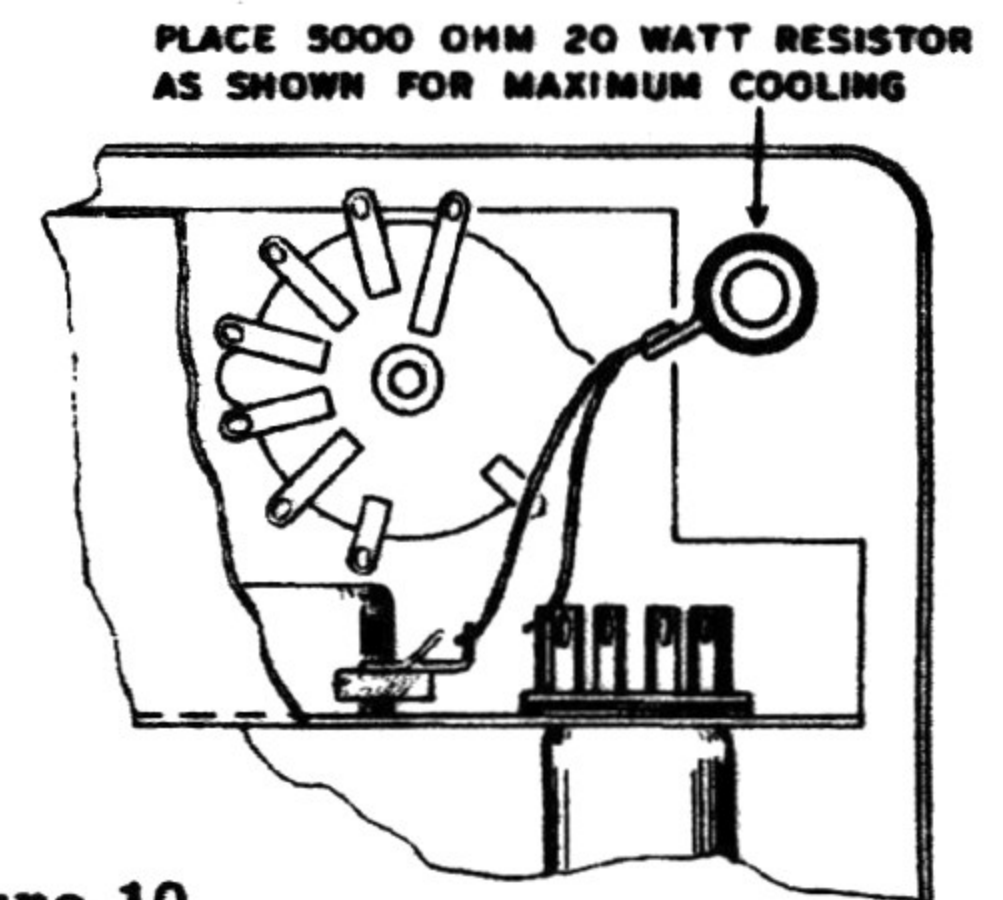

Figure 10
- ( ) Connect a wire between a second twisted mounting prong (S) on the filter condenser and through lug 2 (NS), through lug 3 (NS) on the 600  $\Omega$  oscillator control to lug 1 (NS) on the 10 K $\Omega$  meter control.
- ( ) Connect a wire between lug 1 (S) on the candelabra socket and lug 1 (NS) on the 600  $\Omega$  oscillator control.
- ( ) Connect a 330  $\Omega$  resistor between lug 1 (S) (2) on the oscillator control, through pin 7 (S) to pin 2 (NS) on the 6AU6 socket.
- ( ) Connect a wire between pin 5 (S) on the 6AU6 socket and pin 9 (S) on the 6CL6 socket.
- ( ) Connect a 120 K $\Omega$  resistor between pin 6 (NS) (use sleeving over this lead) on the 6AU6 socket and through pin 8 (S) to pin 3 (NS) on the 6CL6 socket.
- ( ) Connect a 47  $\Omega$  resistor between pin 1 (S) and pin 7 (NS) on the 6CL6 socket.
- ( ) Connect a 47 K $\Omega$  1 watt resistor between pin 2 (S) and through pin 6 (S) to pin 3 (S) (3) on the 6CL6 socket.
- ( ) Connect a 16  $\mu$ fd 150 volt electrolytic condenser with the positive (+) lead to pin 6 (S) (2) and the negative (-) lead to pin 2 (S) (2) on the 6AU6 socket. Use sleeving on both leads. Place condenser close to chassis.
- ( ) Install the line cord. Place it through the grommet in the rear edge of the chassis. Tie a knot for strain relief. Connect one lead to lug 1 (S) (2) and the other lead to lug 2 (S) (2) on the terminal strip.
- ( ) Connect a 20  $\mu$ fd 350 volt electrolytic condenser with the negative (-) lead to lug 2 (NS) on the candelabra socket and the positive lead (+) to pin 7 (NS) on the 6CL6 socket. Use sleeving on these leads.
- ( ) Connect a 5000  $\Omega$  20 watt resistor between pin 7 (S) (3) on the 6CL6 socket and lug 2 (S) (2) on the oscillator control. Leave the leads fairly long and dress as shown in Figure 10.
- ( ) Connect a 7 1/2" wire between lug 2 (NS) on the candelabra socket and lug 3 (S) on the output control.
- ( ) Connect a 3 1/2" wire between lug 3 (S) (2) on the oscillator control and lug 1 (S) on the output control.
- ( ) Connect a wire between lug 5 (S) (3) on the 5-lug terminal strip and the nearest twisted mounting prong (NS) on the filter condenser.
- ( ) Connect an 8 1/2" wire between lug 3 (S) (3) on the 5-lug terminal strip and lug 2 (S) on the meter control.